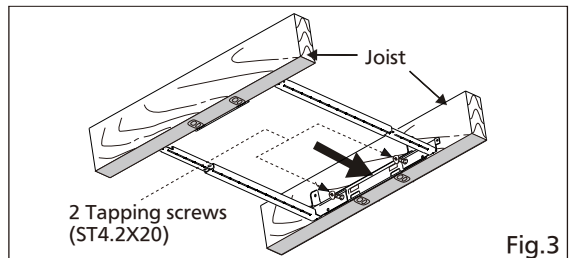

Fig.3
3. Adjust the length of Flex-Z Fast™ bracket to fit the spacing between joists; fix the Flex-Z Fast™ bracket with the other two pre-installed tapping screws. (Fig.3)